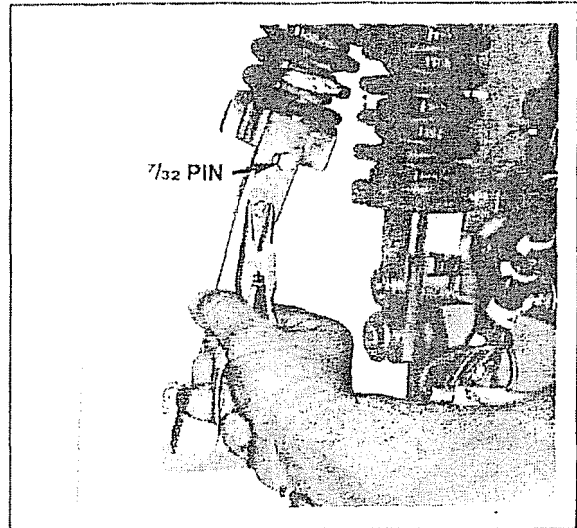

Figure 24
6. Continue slow closing until the opening spring assembly begins to compress and the holes in the outer spring guide clear the bottom end of the inner spring guide. Install a 7/32" diameter pin through the holes on the opening spring guide. When force is released from the handle, the pin will assume the spring pressure. See Figure 24.
7. Remove the spring clip and pin to uncouple the opening spring assembly from the spring connecting link. See Figure 24.